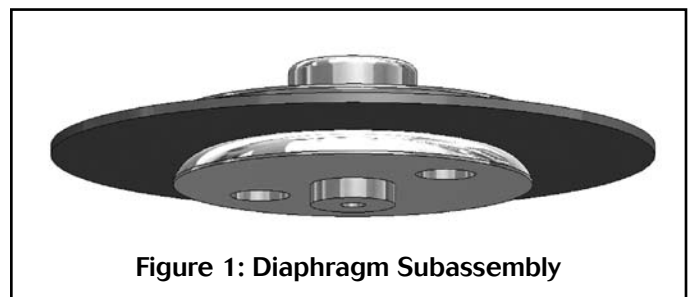

Figure 1: Diaphragm Subassembly
1. Remove adjusting screw assembly (14) completely out of the spring housing (11).
2. If valve is removed from the line, clamp the valve in a vise using the body (1).
3. Remove spring housing (11).
4. Remove range spring (5) and spring seat (10).
5. Remove diaphragm assembly parts (2), (3), and (4). See Figure 1.
7. Remove seat holder (8), seat (9) and plug (7) from body (1).
8. Place new plug (7) into body chamber. Make sure the bottom stop rod (bigger end) of the plug (7) goes down inside the return spring (6).
9. Place the new seat (9) into the seat holder (8) and carefully install into body cavity (1) taking care not to bend the narrow rod on top of the plug (7) when it passes through the seat holder (8).
10. Refer to Figure 1. Unscrew the lower diaphragm plate (4) from the upper diaphragm plate (2). Discard the old diaphragm (3) and reassemble with new one. Use LowFlow replacement diaphragm only. Place diaphragm assembly parts (2), (3), and (4) back into body cavity (1), making sure the small counterbore on the bottom of lower diaphragm plate is properly engaged with the narrow tip of the plug (7) which protrudes through the seat holder (8).